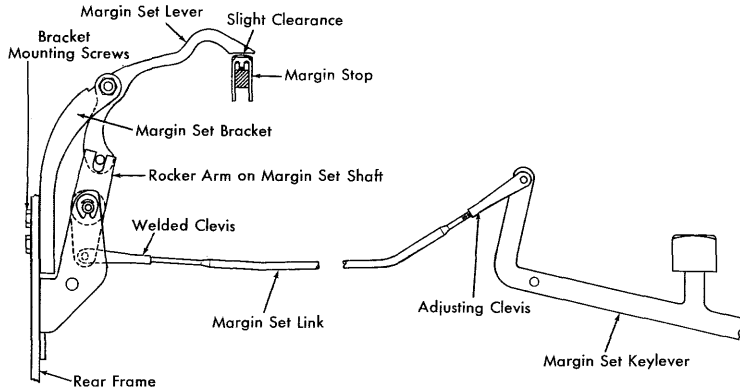

Figure 39. Margin Set Adjustment
1. Adjust the margin set bracket by positioning it on the rear frame so that the set lever enters squarely into the notched top of the stop when the carriage is resting at the margin (Figure 39). Adjust the screw and elastic stop nut that mount the set lever to the bracket to eliminate all side play in the set lever without binding the set lever.
2. Adjust the margin set link by the clevis at its front end so that the margin set lever will just clear the top of either margin stop when all parts are at rest (Figure 39).